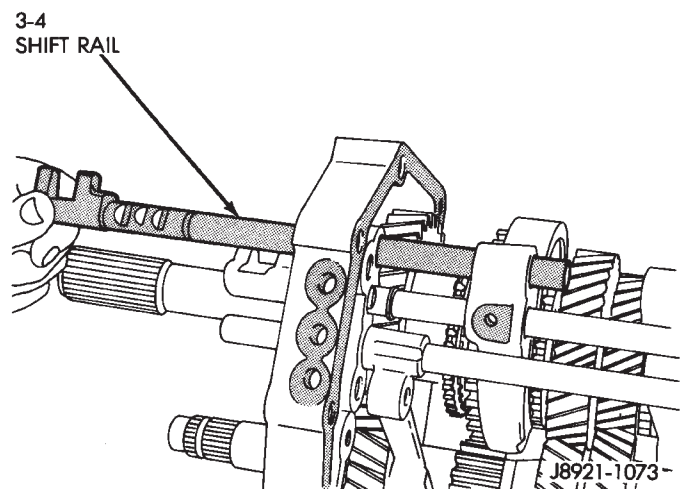
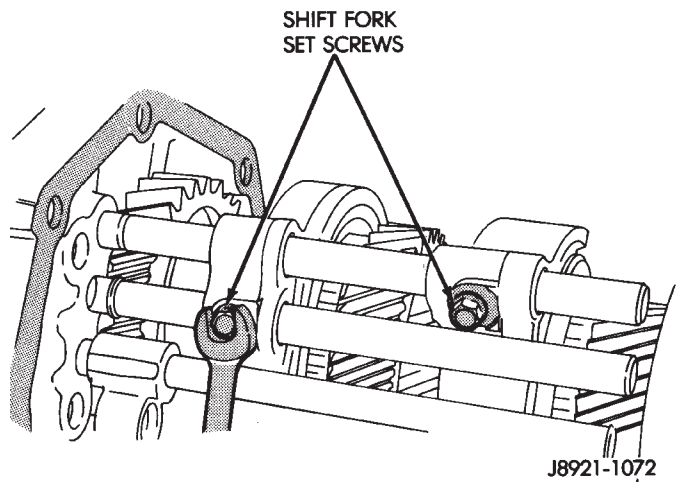

Fig. 94 Installing 3-4 Shift Rail
Fig. 95 Installing Shift Fork Set Screws
(10) Install 3-4 shift rail in intermediate plate and in both shift forks (Fig. 94).
(11) Verify that none of interlock balls, plugs, or pins were displaced during shift rail installation.
(12) Install and tighten shift fork setscrews to 20 N·m (14 ft. lbs.) torque (Fig. 95).